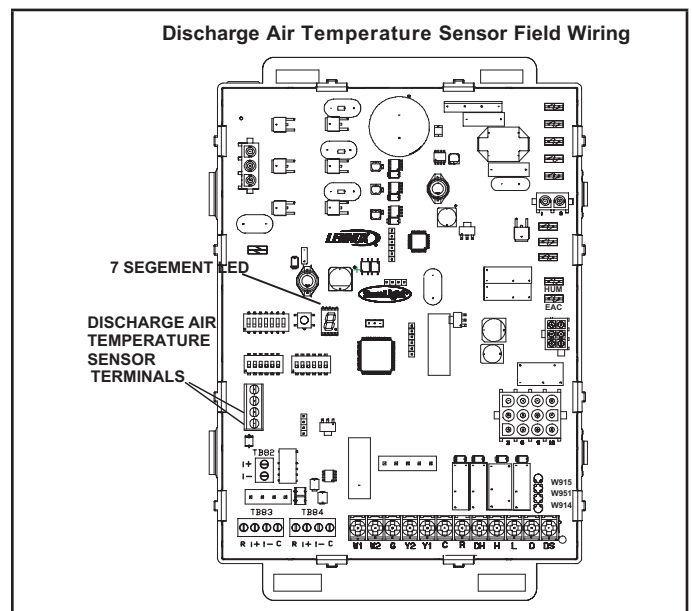

FIGURE 1
- 5 - Connect field supplied wiring to the discharge air temperature sensor terminals on the integrated control board. See figure 1.
- 8 - Connect field supplied wiring to the discharge air temperature sensor terminals on the integrated control board. See figure 1.